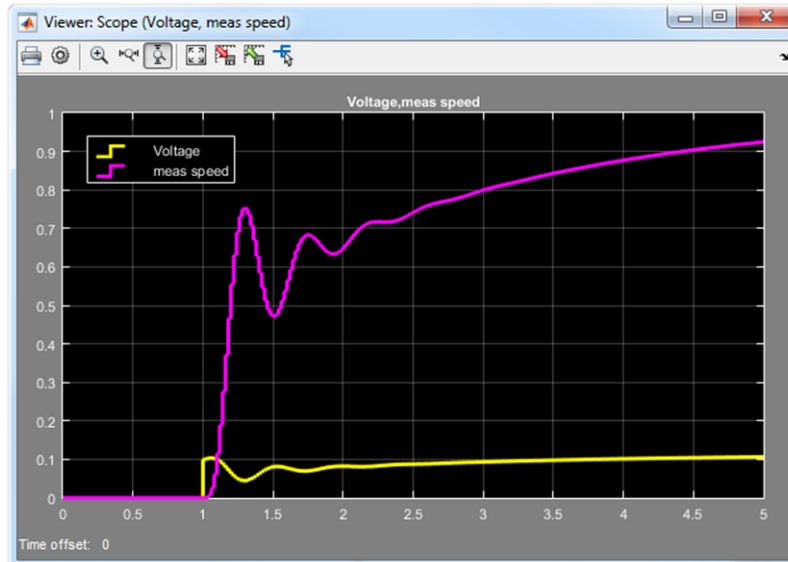

Figure 46 - Voltage Output and Measured Speed
3. Simulate the model and observe that it takes more than 5 seconds for the wheels to reach the desired wheel speed. This is showcased in the Figure 46.